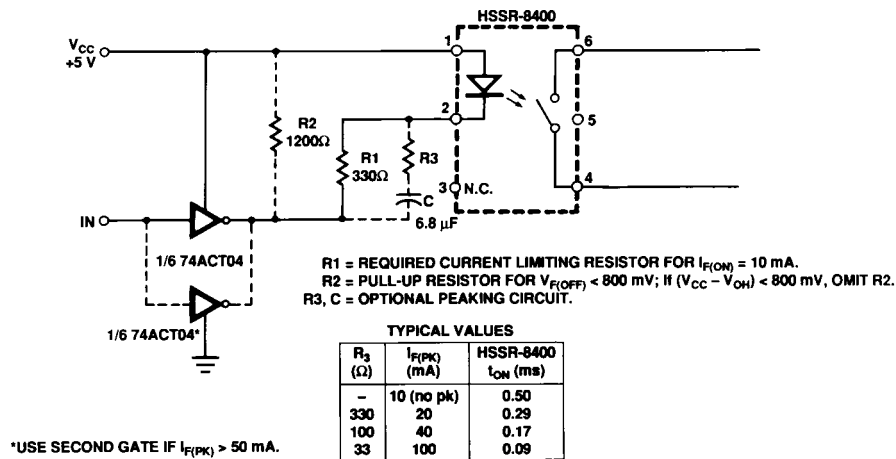

Figure 2. Recommended Input Circuit.
- For a faster turn-on time, the optional peaking circuit shown in Figure 2 may be implemented.
For applications which are sensitive to turn on time, the designer should refer to Figures 20 and 21. These figures show that although there is very little variation in  $t_{ON}$  within most of the population, a portion of the distribution will vary with use. The optional peaking circuit shown in Figure 2 can be used to reduce the total turn on time and, consequently, any associated variation.